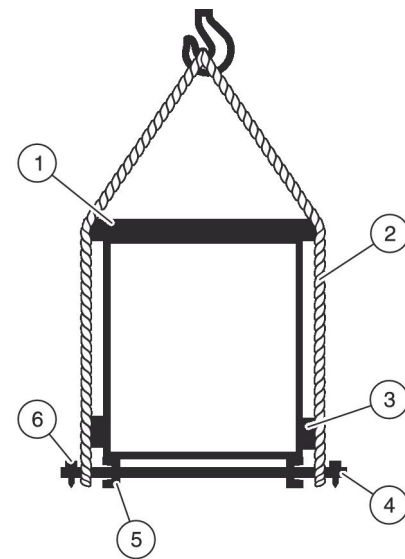

Fig. 6: Moving units with a crane and transport tubes
- ▶ Remove the plugs from the drilled holes in the base frame ( Fig. 6 /5) of the AHU casing unit.
- ▶ Push transport tubes ( Fig. 6 /4) through the drilled holes in the base frame.
- ▶ Place the loops of the ropes or chains ( Fig. 6 /2) around the ends of the transport tubes.
- ▶ Protect the edges with wood blocks ( Fig. 6 /3).
- ▶ Spread the slings near the roof with a suitable device ( Fig. 6 /1).